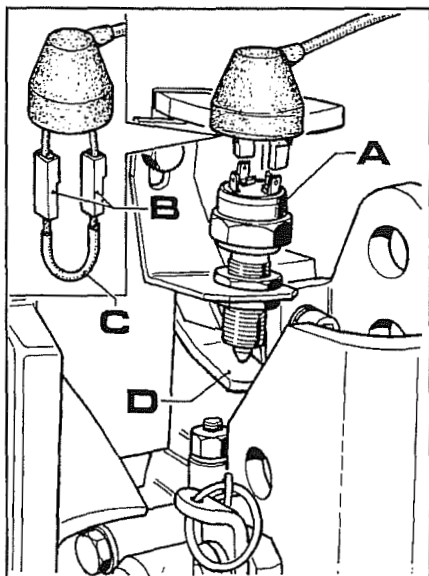

Fig. 12
If the outcome is not positive, check the functional performance of limit switch **A**. Fig.12.
2. Disconnect wires **B** Fig.12 from the switch and connect the wires together with a jumper (**C** Fig.12).
- b. Bring the tip of the new limit switch in contact with lever **D** Fig.12 and fix the switch in this position.
If the tractor does not have valve **T**, disconnect the lift limit switch from the wiring and reconnect the wires with a jumper (see Fig.12), turn the lift lever to Raise (holding the safety button down) and check the pressure on the gauge